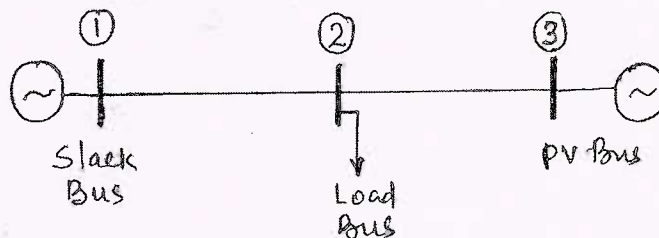

Fig.Q2(c)
- c. One line diagram of a power system is shown in Fig.Q2(c). Using Gauss-Seidel method, determine the complex voltage at Bus-2 at the end of first iteration. Given that $V_1 = 1 \angle 0$ pu, $P_2 + jQ_2 = -5.96 + j1.46$ pu, $|V_3| = 1.02$ pu, $Z_{12} = 0.04 + j0.06$ pu and $Z_{23} = 0.02 + j0.03$ pu.